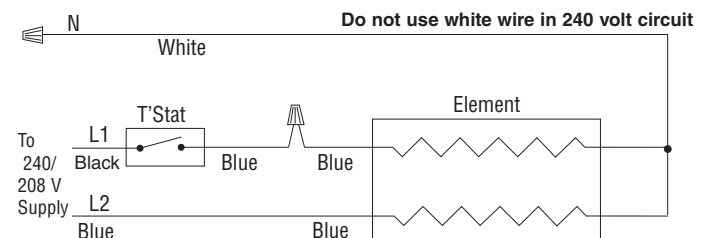
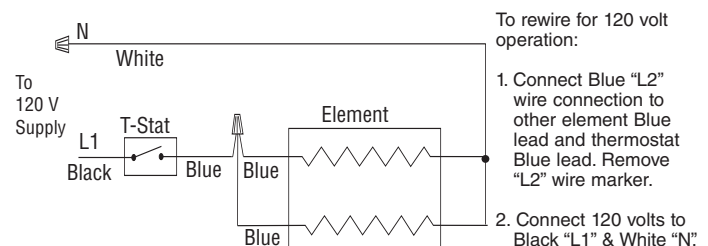

Figure 3: Factory wired for 240/208 volt operation
Figure 4: Field re-wired for 120 volt operation
3. To operate the heater at 208 through 240 volts, connect power supply wiring to heater wiring following the wiring diagram shown in Figure 3. do not use the white wire marked "n" for wiring to 208 through 240 volts.
4. To operate the heater at 120 volts requires the heater to be re-wired as shown in Figure 3 by connecting blue L2 lead wire to wire connection of the other element blue lead wire and thermostat blue lead wire. Remove the L2 wire marker. Connect 120 volts to the black L1 lead and the white N lead. See Figure 4.